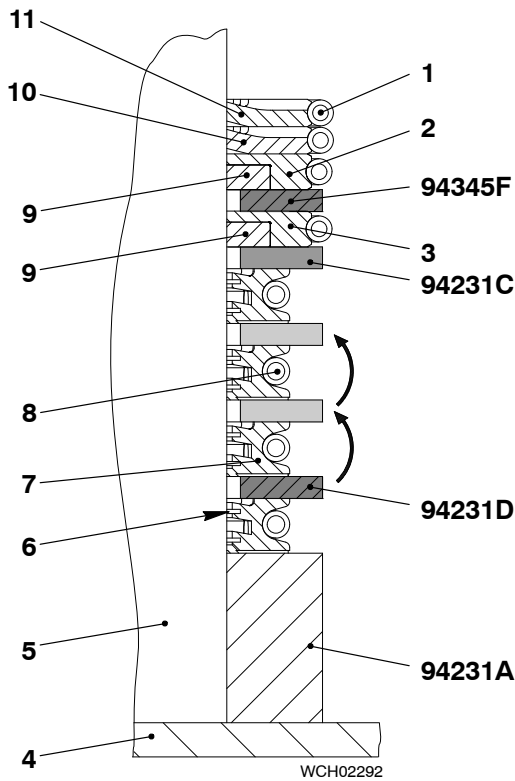

Fig. 4
- 1) Attach the two parts of the clamp ring (94231A, Fig. 4) to the piston rod.
- 2) Put the three parts of the ring support (7) and the scraper rings (6) on the clamp ring 94231A.
- 3) Use the assembly tool (94233) to attach the tension spring (8) to the ring support (7).
- 4) Put the two parts of the distance piece (94231D, 9.0 mm height) on the ring support (7).